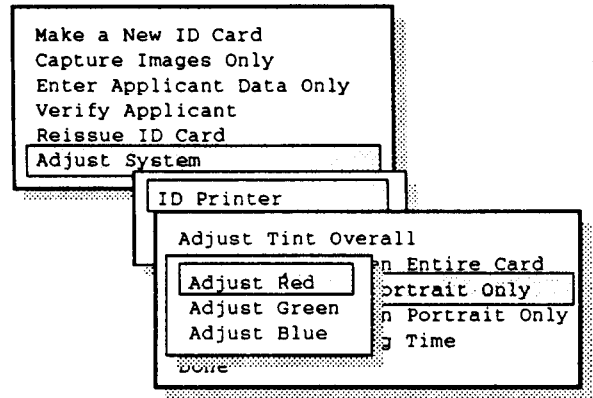

Figure 2-30 Tint Adjustment Colors window
3. Select **Adjust Tint Overall** and press **<Enter>**. This will bring up the Red, Green and Blue Adjustment window shown in Figure 2-30.